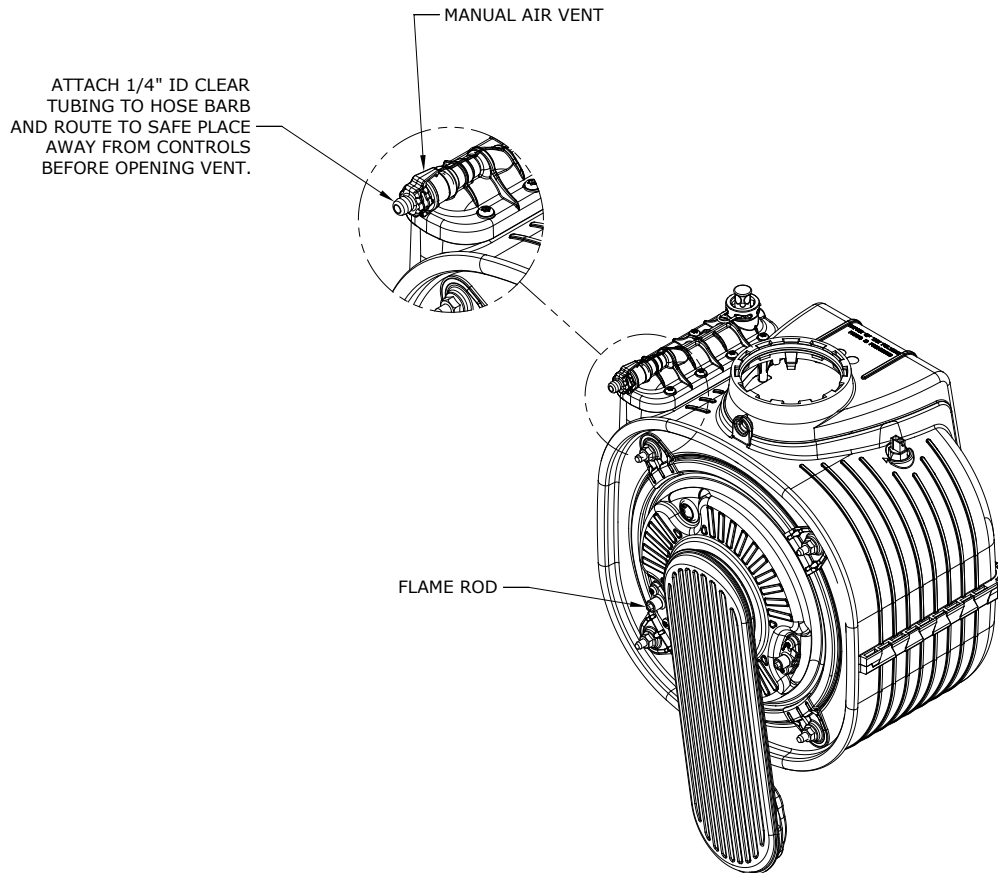

Figure 11.1: Location of Manual Air Vent
- 6) Bleed air from the heat exchanger using the manual air vent in the top left side of the heat exchanger (Figure 11.1). To do this install a piece of ¼" ID clear tubing over the hose barb and route the tubing to a location where water will not damage controls or nearby construction. Turn vent counter clockwise and allow heat exchanger to vent until a steady stream of water is observed. Close vent and remove hose.
- 17) Perform a check of the ignition safety shut-off device. With the burner firing, carefully unplug the orange flame rod wire at the flame rod using a pair of insulated pliers (Figure 11.1). The burner should shut off immediately.